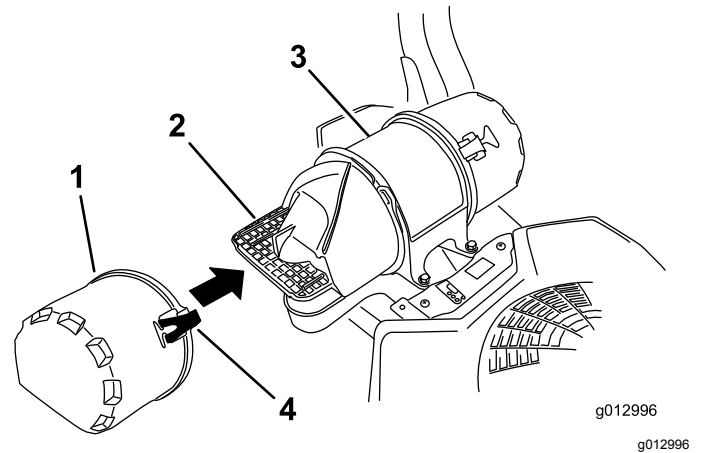

Figure 48
3. Release the latches on the air cleaner and pull the air-inlet cover off the air-cleaner body (Figure 48).
5. Install the air-inlet cover and secure it with the latches (Figure 48).